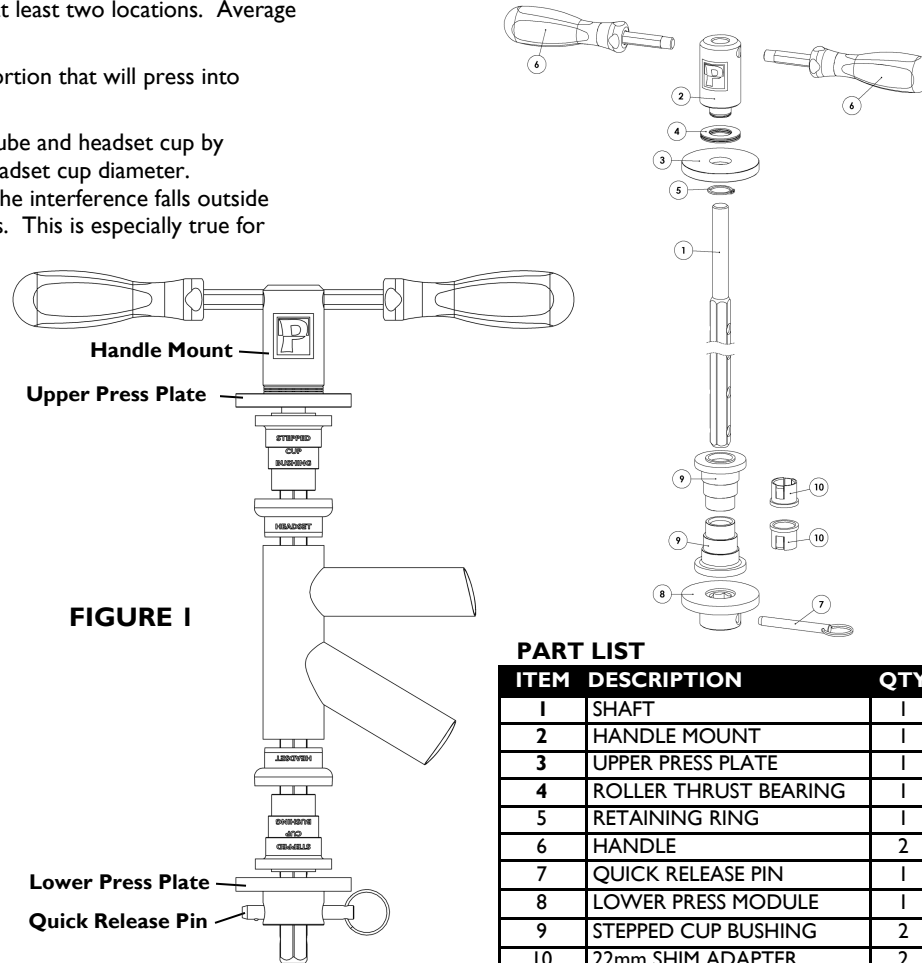

FIGURE 1
4. Evaluate headset type and select appropriate adapters. See TABLE 1. Apply light coating of grease to mating surfaces of headset cups and head tube. Install press, adapters, and headset cups as shown in FIGURE 1. Check that adapters press only on upper press plate and do not contact handle mount or retainer ring.